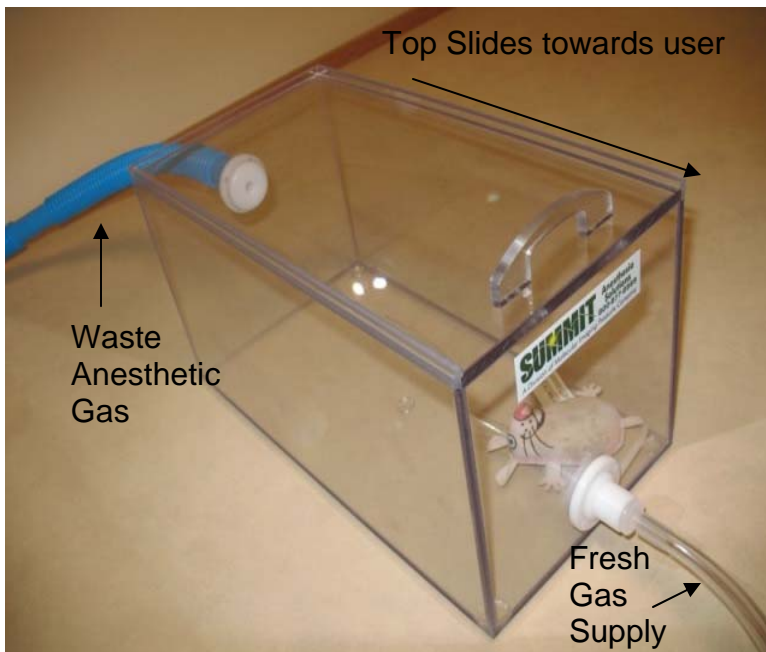

Figure 1
1. Place the chamber on a flat surface with the opening away from the operator, so that the sliding top slides toward the operator. (see figure 1)
2. When the animal is fully anesthetized turn the Isoflurane off, and allow about five seconds for oxygen flow to help reduce Isoflurane concentrations in the chamber. (see figure 1)